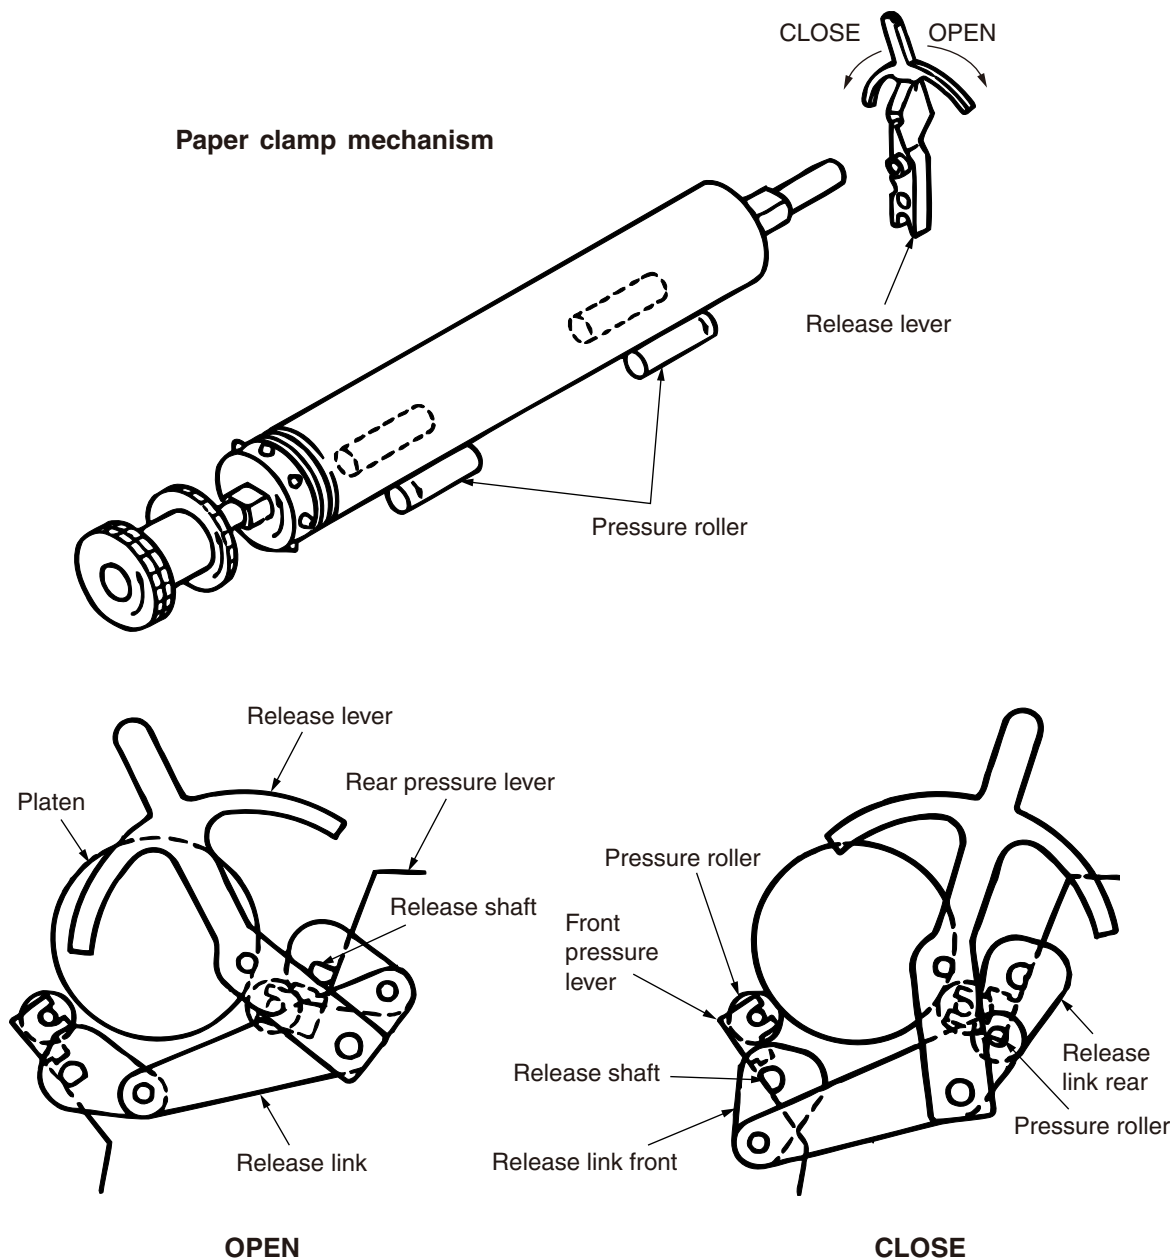

Figure 8
(2) Paper clamp mechanism (see figure 8)